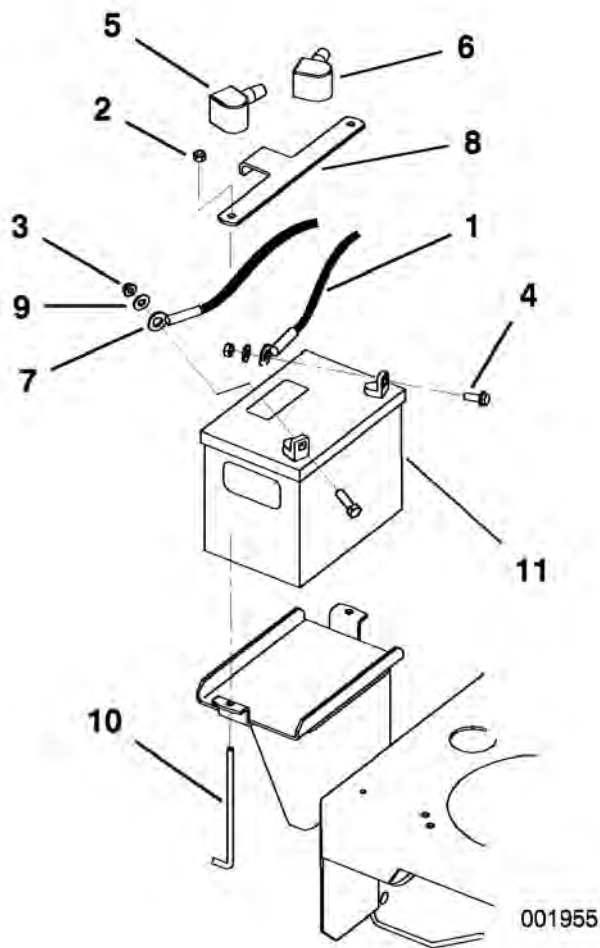

Figure 40
3. Lift the black rubber cover on the negative cable. Disconnect the negative battery cable from the negative (-) battery terminal (Figure 40).
4. Slide the red terminal boot off the positive (red) battery terminal. Then remove the positive (red) battery cable (Figure 40).
5. Remove the battery hold down plate (Figure 40) and remove the battery.
1. Place the battery onto the machine (Figure 40).
3. First, install the positive (red) battery cable to positive (+) battery terminal with a nut, washer and bolt (Figure 40). Slide the rubber cover over the post.
4. Then install the negative battery cable and ground wire to the negative (-) battery terminal with a nut, washer and bolt (Figure 40). Slide the rubber cover over the post.